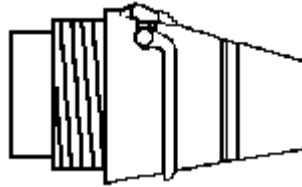

FIGURE 13. M935/M936 PD
(2) Point Detonating, M935/M936 Fuzes (Figure 13.)